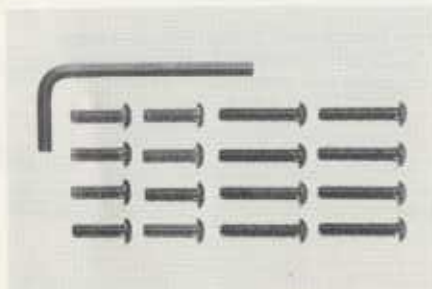

Fig 4
3. Remove the column from polystyrene pack as illustrated (Fig 2) and remove polystyrene end cap revealing the bottom of the cabinet. Attach metal base plate of stand with four socket button screws provided. Fig 3 Allen key for tightening these screws is provided in your accessory pack, Fig 4 and it is important that they are properly tightened.